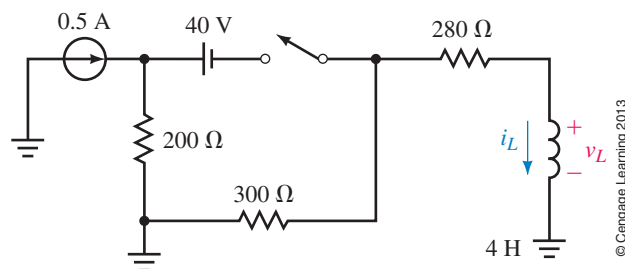

FIGURE 14–47
26. Repeat Problem 23 for the circuit of Figure 14–47, except find v_L and i_L at $t = 13.8\ \text{ms}$.